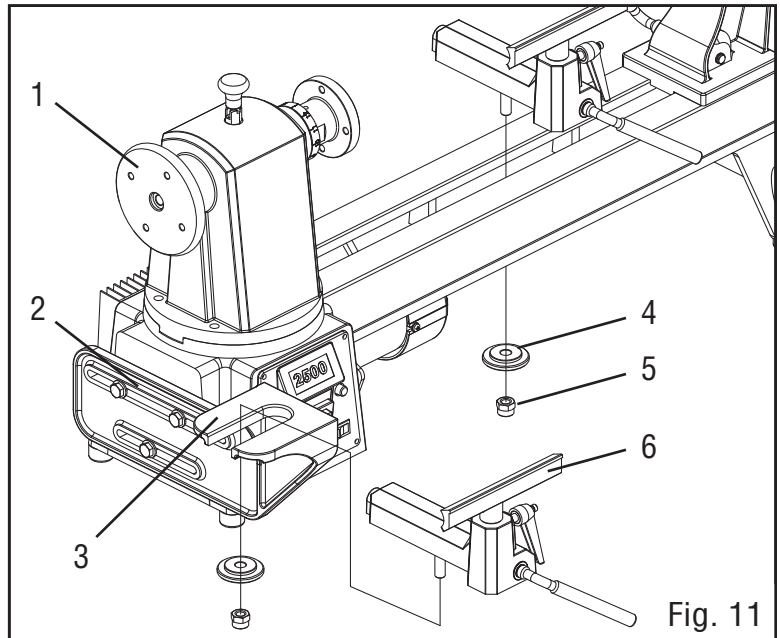

Fig. 11
When a workpiece is larger than the swing capacity on the bed, it can be turned by using the back face plate (Fig. 11 - 1) and tool rest (Fig. 11 - 6). To mount the tool rest to the back of the lathe:
1. Fit the back tool rest support (Fig. 11 - 3) to the rear of the lathe using three hex bolts and three flat washers (Fig. 11 - 2).
2. Remove the clamp (Fig. 11 - 4) and hex nut (Fig. 11 - 5) of tool rest base from the underside of the lathe.
3. Move the tool rest base onto the back support. Replace the clamp (Fig. 11 - 4) and hex nut (Fig. 11 - 5) onto the thread. Alternatively, you can remove the stop at the end of the bed and slide the tailstock and tool rest off.